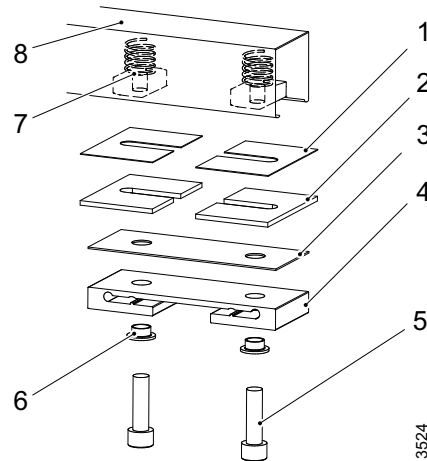

Fig. 4-4 Mounting ceiling rail Y
- Check the mounting of insulation plates and insulation cases, see **Fig. 4-4**.